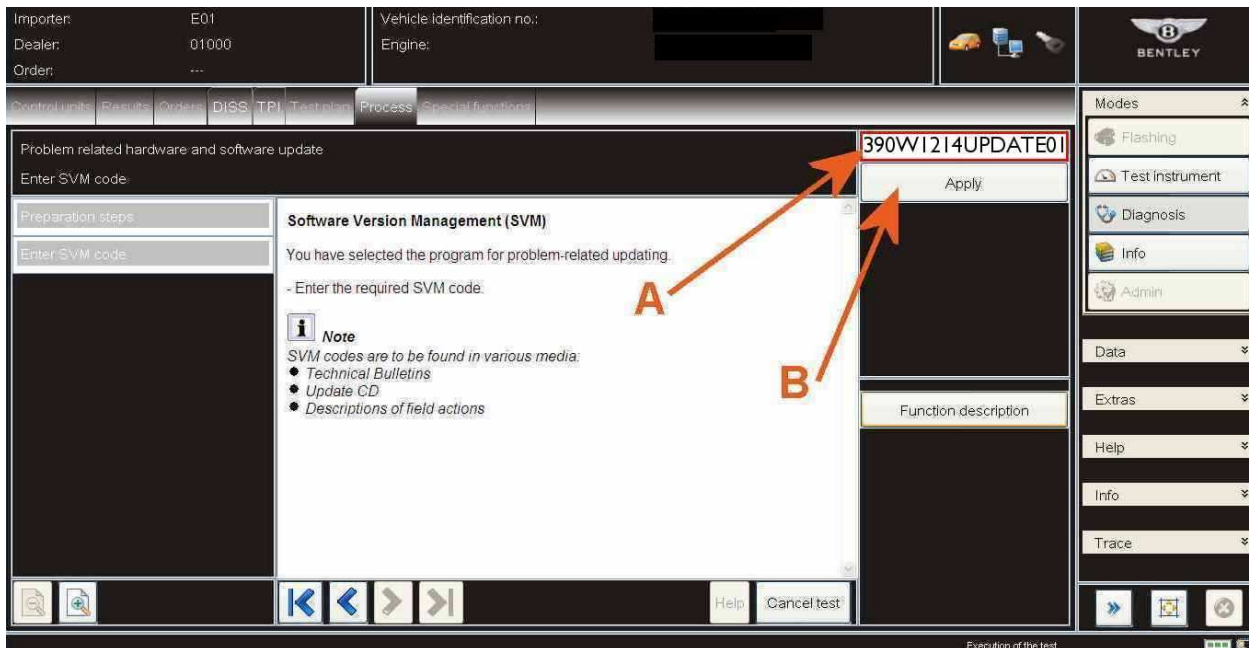

Figure 9
3. Referring to Figure 9 Point A, enter the specific SVM code for the vehicle being worked please enter the following reference chart for the correct code
CAUTION: The codes shown in Figures 9 and 10 should only be used on New Continental GT and GTC vehicles, for all Flying Spur updates please follow the reference chart